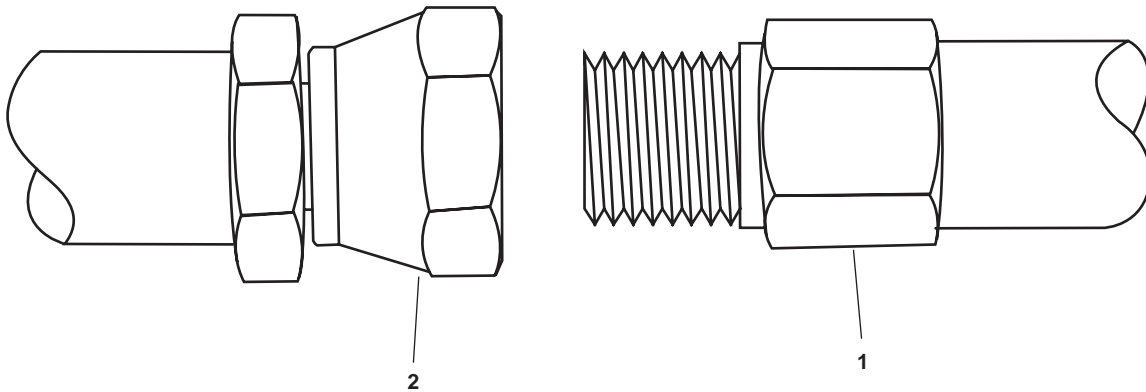

Figure 3. Hydraulic Hose Replacement
2. Hold the fixed end of the piping (figure 3, item 1), fitting, or hydraulic hose with one wrench while placing a second wrench on the swivel fitting (figure 3, item 2).
3. Use the two wrenches to “crack” the swivel fitting (figure 3, item 2) loose.
5. After the fluid has stopped draining from the swivel fitting (figure 3, item 2), finish unscrewing the swivel fitting from the fixed end (figure 3, item 1) of the piping, fitting, or hose.
1. Thread the swivel fitting (figure 3, item 2) onto the fixed end (figure 3, item 1).
2. Tighten the fittings by placing one wrench on the swivel fitting (figure 3, item 2) and one wrench on the fixed end (figure 3, item 1).